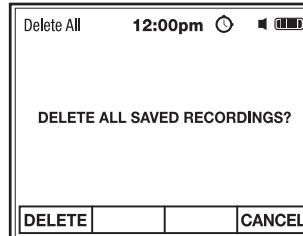

Fig. 16
2. Press the F1 soft key to DELETE ALL RECORDINGS (Fig. 16).
3. Press the F4 soft key to CANCEL and return to Recordings Menu without deleting (Fig. 16).